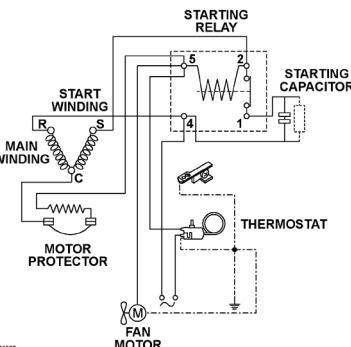
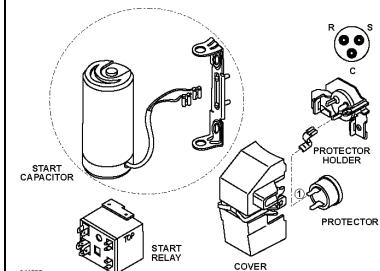

Figure 10d. Danfoss 5/8 Hp Compressor Schematic
Figure 10b. Danfoss Compressor
Danfoss 5/8 HP – Remove relay from compressor. See Figure 10b and Figure 10d on pages 26 and 26.
3. **Check compressor windings** using ohmmeter. Refer to Table 1, Figure 10b, and Figure 10d on page 26.